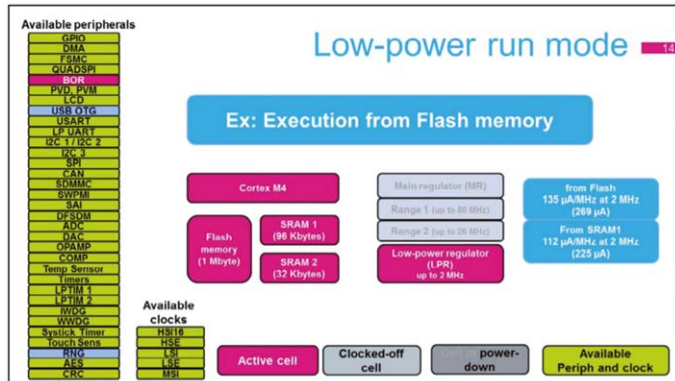

Figure 15.4: Low-power run mode.
**Low-power run mode:** in this mode (Figure 15.4) the main regulator is OFF. The system clock is up to 2 MHz, all clocks can be enabled. Execution can be from Flash memory or SRAM. The Flash consumption can be reduced by powering it down and gating its clock off. All peripherals can be activated except the USB OTG and Random Number Generator. Power consumption is 135  $\mu\text{A}/\text{MHz}$  when executing from Flash memory, and 112  $\mu\text{A}/\text{MHz}$  when operating from SRAM.